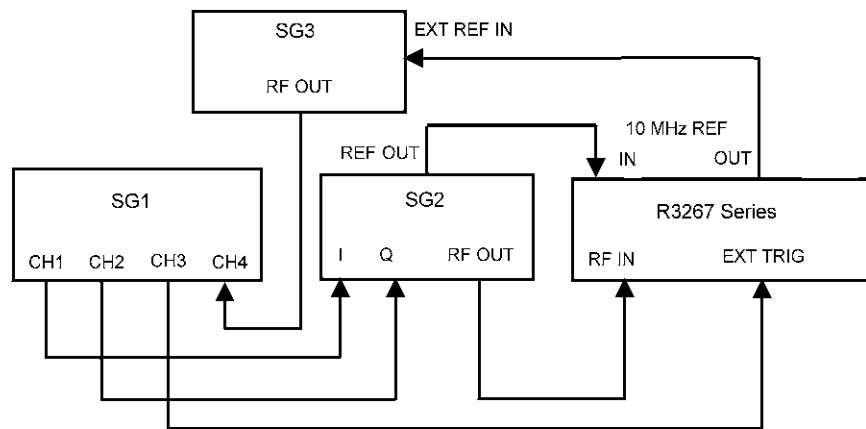

Figure 6-2 Setup of Code Domain Measurement (in RF Input) (Forward Link)
1. Connect the R3267 series equipment to the signal generator as shown in Figure 6-2.